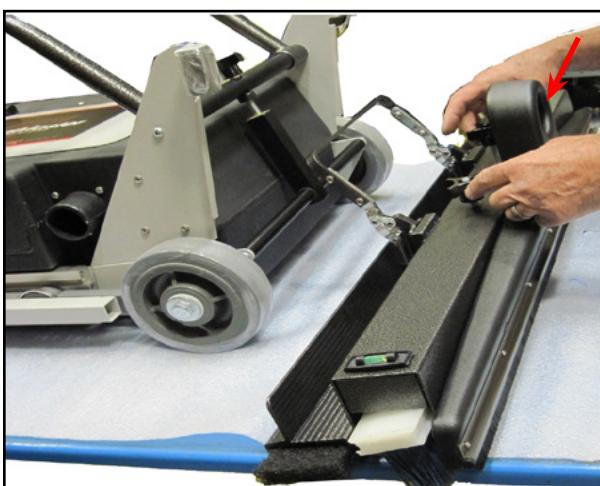
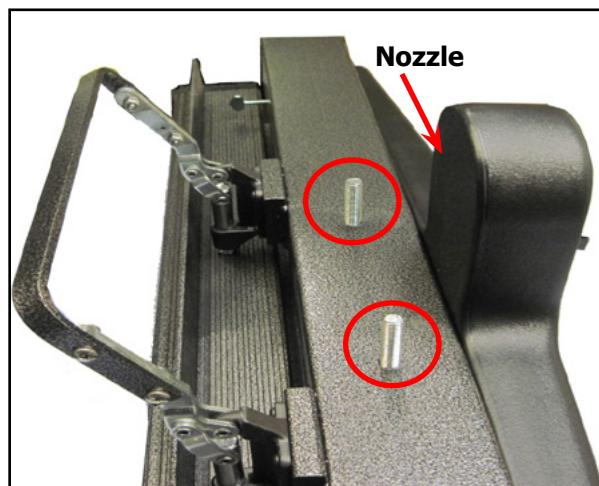

Figure 3. Position Assemblies Together, on Flat Surface
Figure 4. Fluted Knobs Removed from Head Assembly; Nozzle Facing Outward
1. Placing the head assembly and housing assembly on a flat surface (see Figure 3).
2. Unfastening the two fluted knobs on the head assembly (see Figure 3 and Figure 4)